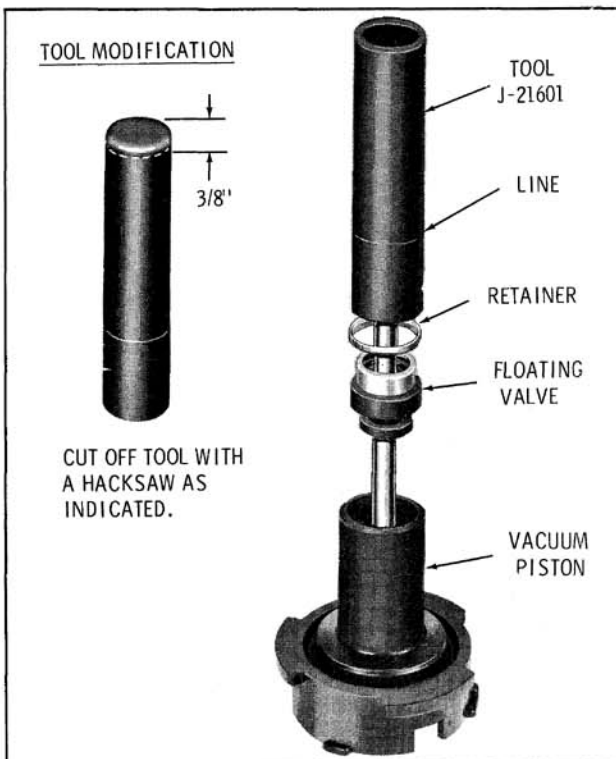

Fig. 11-38 Installing Floating Valve
6. Using Tool J-21601, press the floating valve until it seats in the vacuum piston. Line on tool will be flush with top of vacuum piston when floating valve is fully seated. (Fig. 11-38)